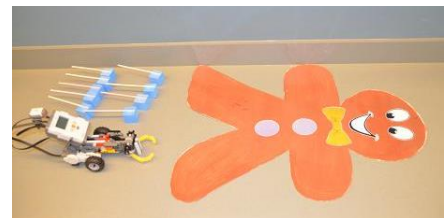

Figure 1
1. Places robot where student choose: top of head OR bottom of foot. See Figure 1